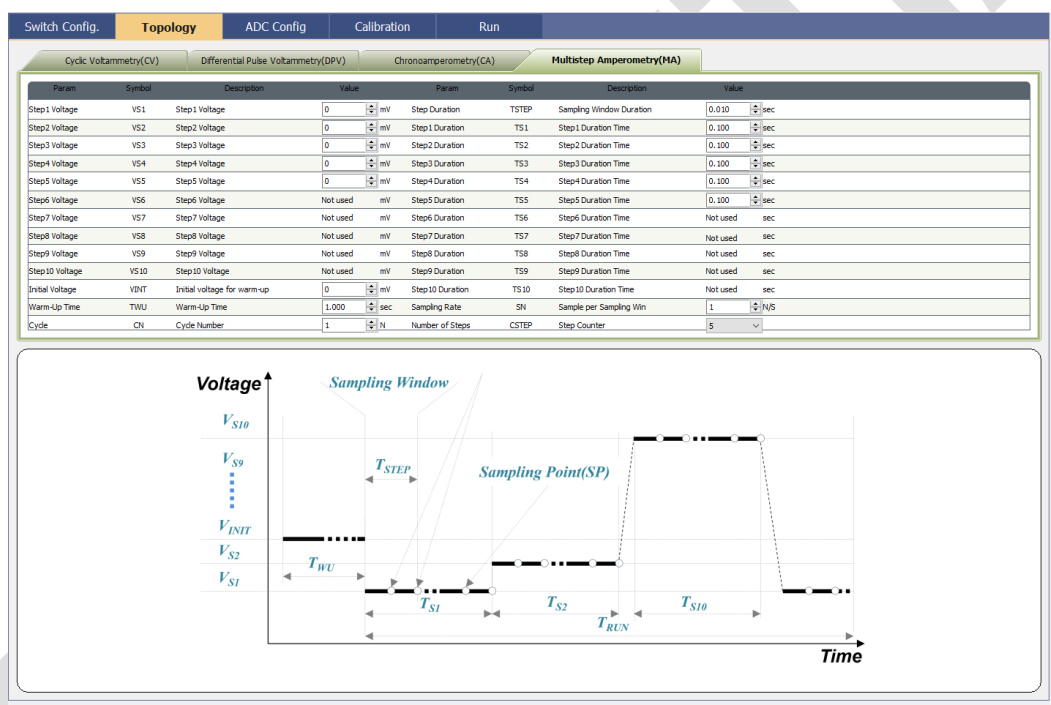

Figure 10 Topology MA
- **MA Selection:** When MA is selected in the Topology Tab, the interface updates as shown in Figure 10. Refer to Table 4 for specific MA parameters.
- **TSTEP Configuration:** Similar to Chrono Amperometry (CA), TSTEP in MA should be less than the values of T1, T2, ..., T10 (configurable via CSTEP). The number of sampling windows is determined by the integer result of  $T1(T2) / TSTEP$ , and any remainder introduces a delay after the window ends.